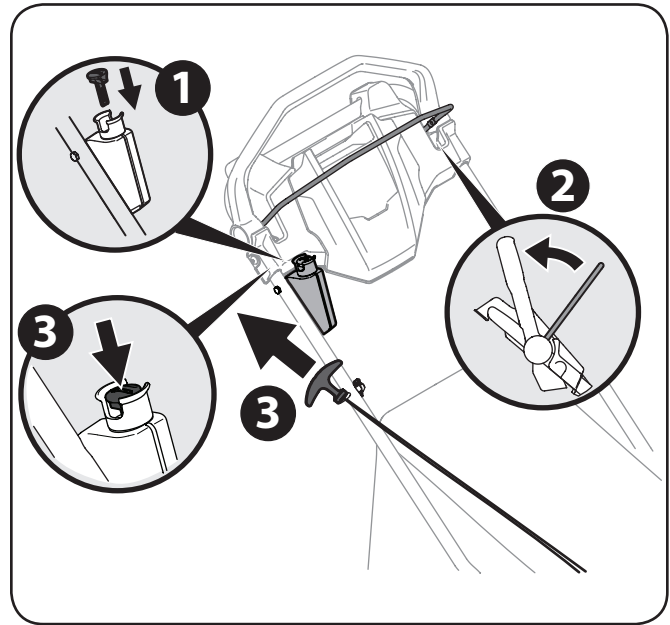

Figure 5-1
2. Standing behind the mower, pull the blade control back against the drive control. See Figure 5-1.
Electric Start (If Equipped): Push the electric starter button to start the engine. See Figure 5-1.